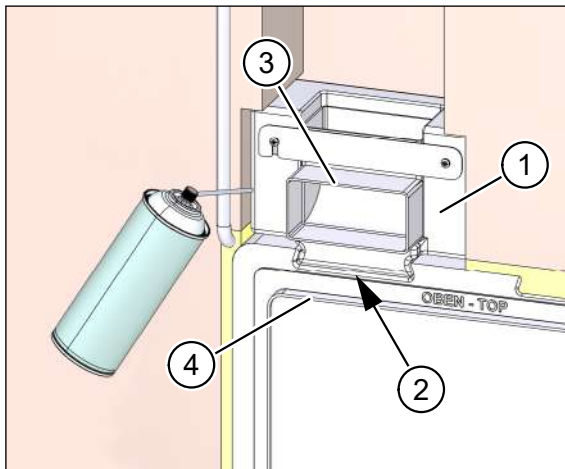
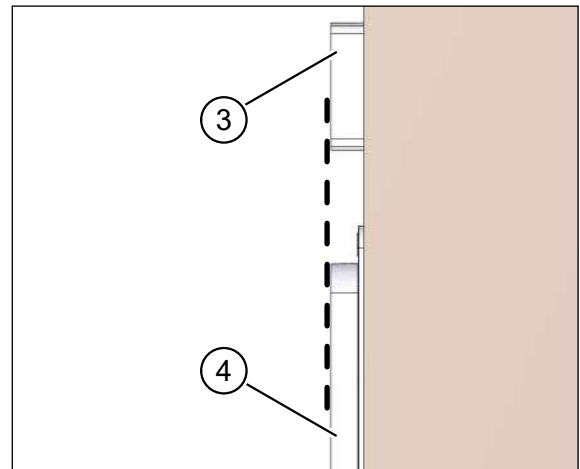

Fig. 24: Inserting ductwork connection adapter and filling gaps with foam
Fig. 25: Flat ductwork bend flush with the plastering trim
- ▶ Insert the ductwork connection adapter (item 1 in Fig. 24) into the guide (item 2 in Fig. 24) on the top of the wall box (on the extract air side, supply air side or on both sides as shown in the plans).
- ▶ Push the ductwork connection adapter in until the flat ductwork bend (item 3 in Fig. 24 and Fig. 25) ends flush with the plastering trim (item 4 in Fig. 24 and Fig. 25).